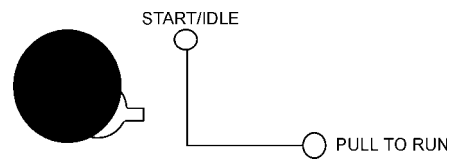

Figure 23. Engine Throttle Lever (HIGH)
8. Pull the lever and turn to the right to increase the engine speed. (Figure 23).